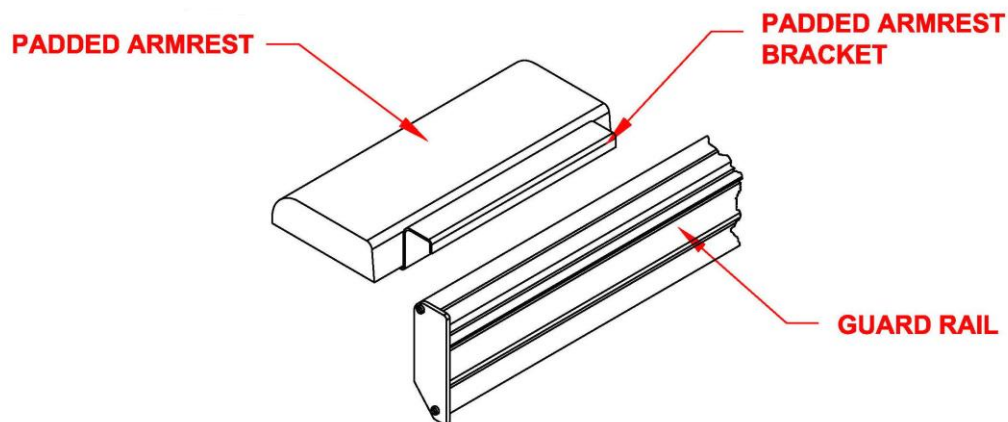

Figure 8. Adjustable Padded Arm Rest Illustration.
2. To install the adjustable padded arm rests, simply drop onto the guardrail (as shown Fig. 8). They can then be slid into any position desired.